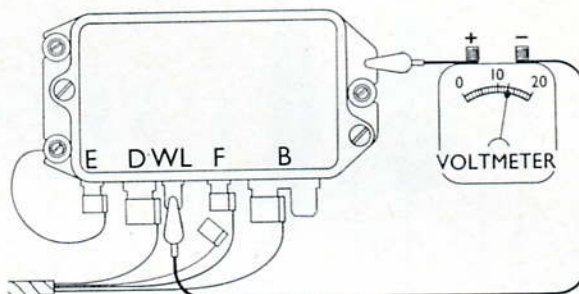

Fig. P.31. Cut-out relay, cut-in voltage setting
2. Start the engine and increase engine speed from idling. Check the voltage at the point of contact closure (Fig. P.31); this should be between 12.6 and 13.4 volts. Closure of the contacts is indicated by the voltmeter needle flicking back.